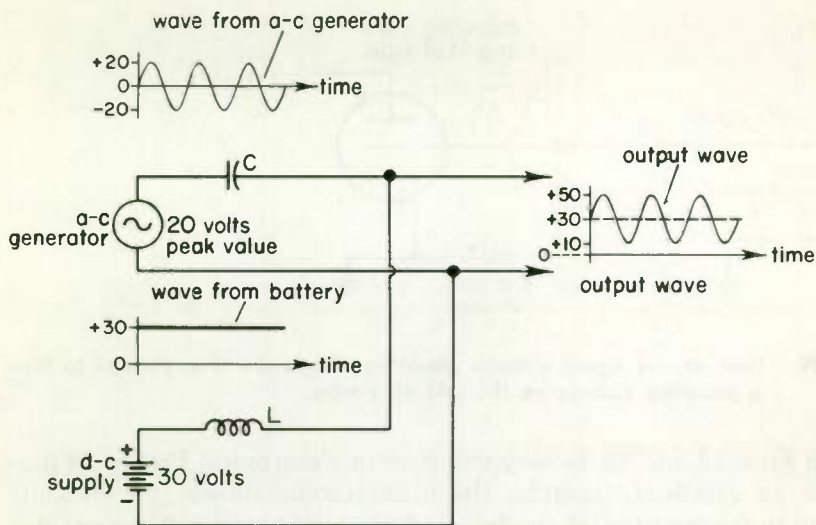
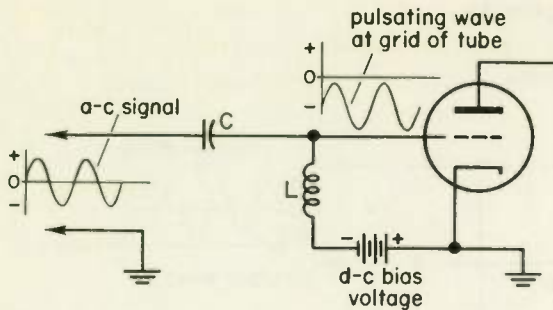
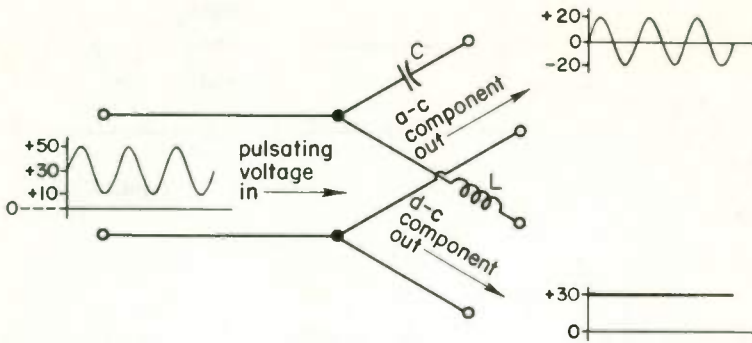

Fig. 28
Fig. 29 How an a-c signal voltage combines with a d-c bias voltage to form a pulsating voltage on the grid of a tube.
Fig. 31 Separating a pulsating voltage into its a-c and d-c components.
Figure 28 shows how to combine the output from an a-c voltage source with the output from a d-c voltage source to produce a pulsating-
Figure 29 shows the circuitry of Fig. 28 applied to a practical situation. The proper operation of most vacuum tubes requires that a pulsating voltage be applied to the grid of the tube. In the circuit shown in Fig. 29 the a-c signal coming into the grid is combined with a d-c bias voltage to produce a pulsating voltage, as shown, on the grid of the tube. Notice carefully that the circuit is identical to that in Fig. 28, with the a-c signal replacing the a-c generator.
as in Figs. 28 and 29, is very common in electronics. Figure 29 provides an excellent example; the arrangement shown is commonly found in transmitter r-f amplifiers. A capacitor used to keep out d-c, such as *C* in Figs. 28 and 29, is often called a *blocking capacitor*, since it blocks d-c from entering. An inductor used to keep out a-c is often called a *choke*, since it “chokes” off the a-c current or voltage.
3. If in Fig. 29 the a-c signal has a peak amplitude of 4 volts and the d-c bias voltage is -7 volts, the most negative value of the pulsating
4. If in Fig. 29 the a-c signal has a peak value of 7 volts and the d-c bias voltage is -7 volts, the most negative value of the pulsating voltage on the grid is (a) _____ volts and the least negative value is (b) _____ volts. If the a-c signal is now increased to 8 volts peak value, the most negative value of the pulsating voltage on the grid is (c) _____ volts and the corresponding minimum value is (d) _____ volts. The voltage on the grid is no longer always of (e) _____ polarity.
5. Under some conditions a vacuum tube will not operate properly if the grid becomes positive at any time. With a bias voltage of 7 volts in Fig. 29, the peak value that the a-c signal could have and the grid never be positive would be (a) _____ volts. The maximum permissible rms (root-mean-square) value of the signal voltage would be (b) _____ volts.
We have seen how a capacitor and an inductor can be used to combine a d-c wave and an a-c wave to form a pulsating wave. Conversely, a pulsating wave can be separated into its d-c and a-c components by the use of inductors and capacitors to "steer" the two components into separate paths. Figure 31 shows a suitable circuit. Here a voltage that pulsates between 10 and 50 volts and has an average of 30 volts is fed into the circuit. Since this wave has the same values as the output wave of Fig. 28, the amplitudes of the output a-c and d-c
components is the same as the amplitudes of the input a-c and d-c components in Fig. 28.
In Fig. 31 the choke L passes the d-c component but blocks out the a-c component. The capacitor C passes the a-c component but blocks out the d-c component.